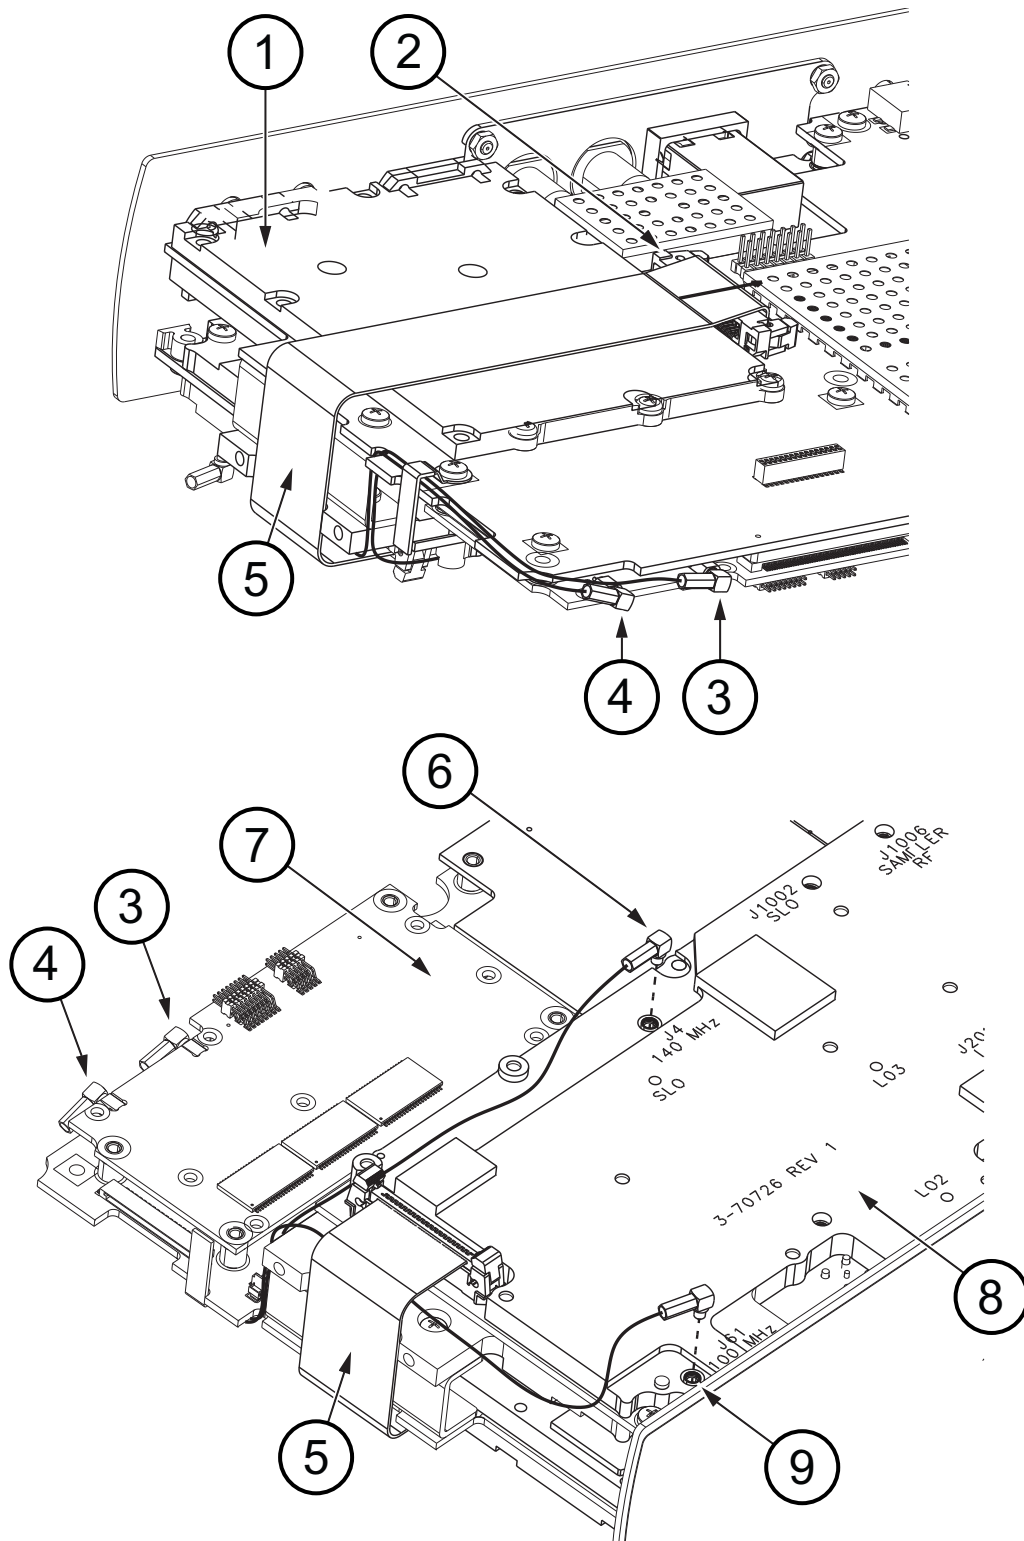

Figure 6-17. Connections Between PCB Assemblies
12. Connect the ribbon cable (Item 5 in Figure 6-17) from the Mother Board to the SPA PCB.
13. Connect the RF cables from the DSP board to the SPA board. Refer to Figure 6-17 for the locations of the MMCX connectors.
The RF cable from MMCX connector DSP J1 (100 MHZ, Item 4 in Figure 6-17) connects to SPA PCB J61 (Item 9 in Figure 6-17).
The RF cable from MMCX connector DSP J2 (140 MHZ SPA IF, Item 3 in Figure 6-17) connects to SPA PCB J4 (Item 6 in Figure 6-17).
Table 6-2. Numbered Items in Figure 6-17